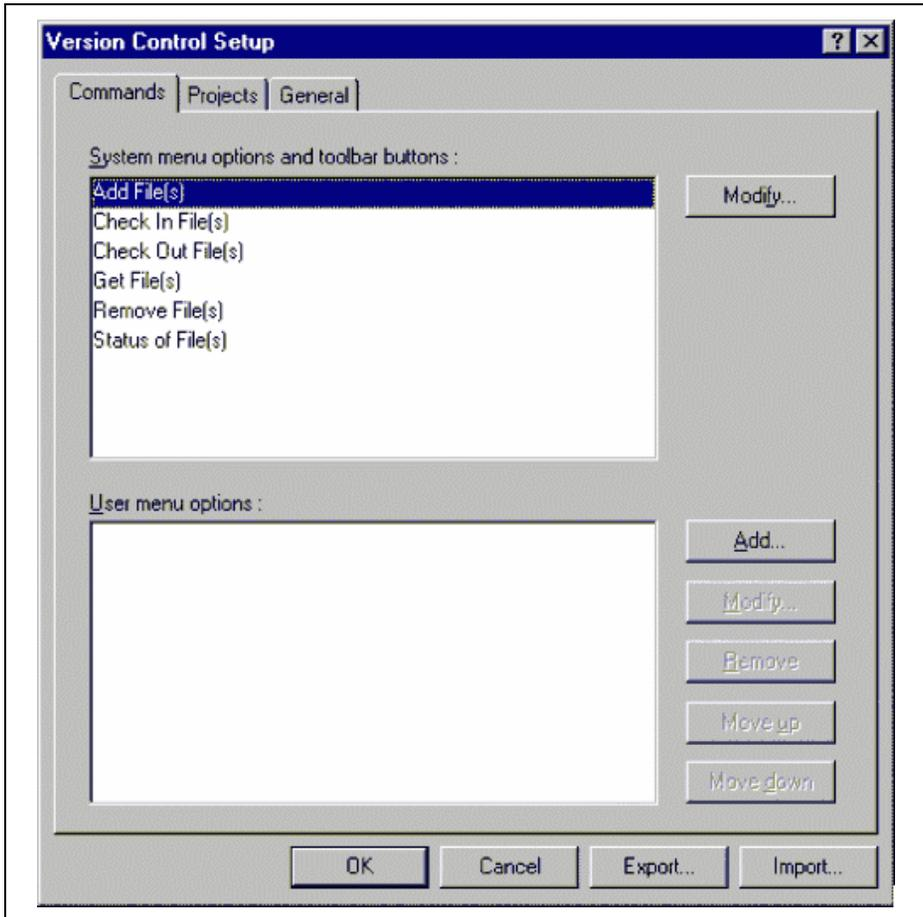
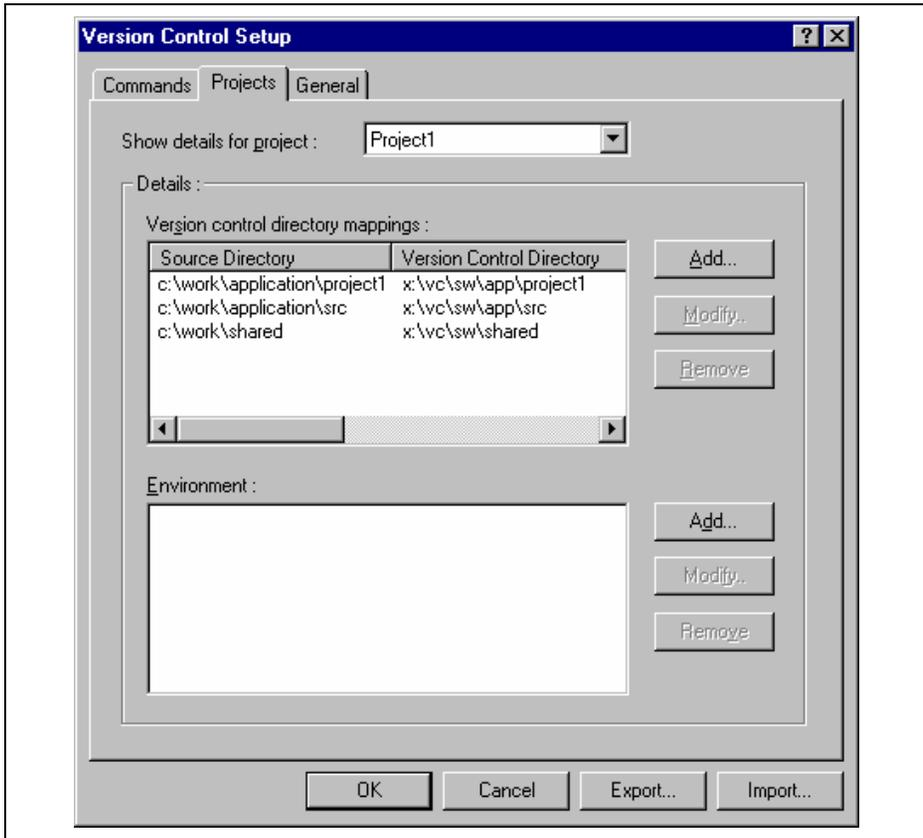

Figure 8.1: Version Control Setup Dialog Commands Tab
Figure 8.7: Version Control Setup Dialog Projects Tab
The custom version control support allows you the most flexibility in specifying how a version control system is to be used. To configure it, select **[Version Control->Configure...]**. The “Version Control Setup” dialog will be displayed (figure 8.1).
1. Select [**Version Control->Configure...**]. The dialog shown in figure 8.1 will be displayed.
1. Select [**V**ersion **C**ontrol->**C**onfigure...]. The dialog shown in figure 8.1 will be displayed.
However, when executed, this command can only ever get the file MAIN.C. To resolve this problem, HEW uses a system of placeholders and directory mappings. The latter tell the HEW which “working” directories (i.e. where source files are being worked on) map to which “controlled” directories (i.e. where the source files are stored in the version control system). Mappings between these two directory systems can be specified via the “Projects” tab of the “Version Control Setup” dialog (figure 8.7).
1. Select [**Version Control->Configure...**]. The dialog shown in figure 8.1 will be displayed. Select the “Projects” tab, and the dialog shown in figure 8.7 will be displayed.
1. Select [**Version Control->Configure...**]. The dialog shown in figure 8.1 will be displayed. Select the “Projects” tab, the dialog shown in figure 8.7 will be displayed.
Select the “Projects” tab of the “Version Control Setup” dialog to view the current settings (figure 8.7).